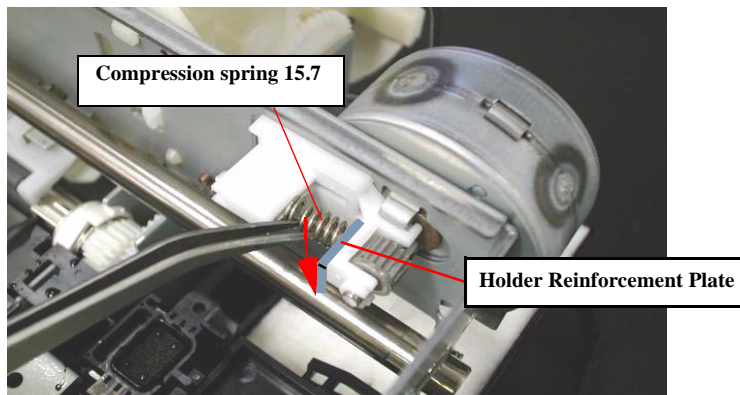

Figure 4-9. Remove the Compression spring 15.7
- Make sure to set the Holder reinforcement plate with the Compression spring 15.7. Refer to Figure4-9.